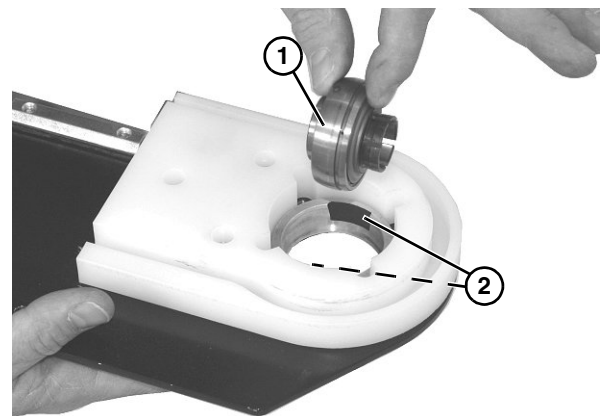

Figure 74
1. Turn bearing (**Figure 74, item 1**) to align with slots (**Figure 74, item 2**) in bearing housing. Then remove bearing.